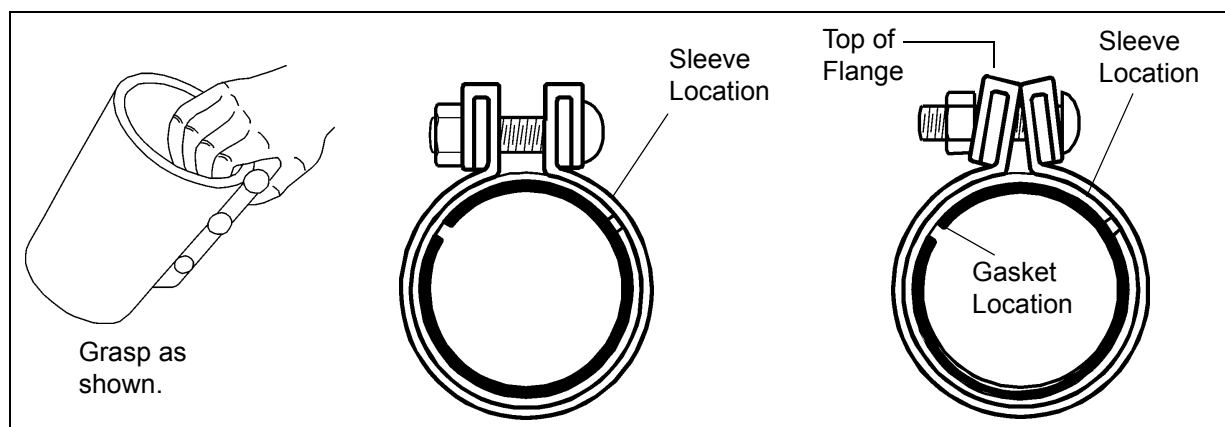

Figure 14A
1. Couplings are shipped ready-to-install... do not disassemble. To prevent gasket from slipping out of proper position, always grasp coupling as shown in Figure 14A. This will save time by maintaining proper position of gasket and sleeve in relation to shell and flange.
3. Grasp coupling as shown in Figure 14A to keep gasket and sleeve (and gasket protector when used) in separate quadrants, as shown in Figure 14A. Be sure gasket teeth mesh and do not overlap.
7. When properly and evenly tightened to the recommended torque the coupling installation is complete. The top edges of the flanges will touch and flanges appear as a vee when viewed from the end, as shown in Figure 14A. **DO NOT** attempt tightening bolts to flatten flange faces together, as this exceeds recommended limits.